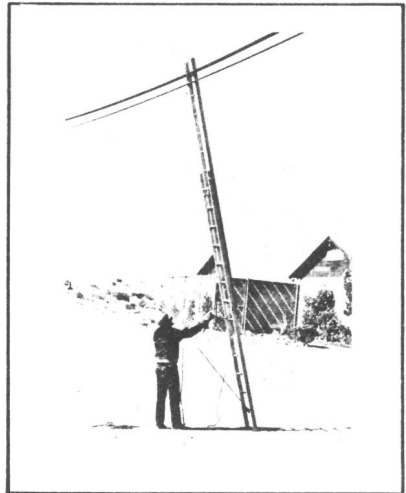

**FIGURE 27.**
**17.08** Continue pulling the free end of the handline until the ladder is in a vertical position under the strand as shown in Figure 27.
**17.09** As mentioned in paragraph 17.04, if the ladder base was not placed directly under the strand, the base should be moved directly under the strand. To do this, tie the free end of the handline to a ladder rung with a clove hitch and two half-hitches and move the base of the ladder in position under the strand. Untie the free end of the handline and pull on the handline until the ladder is vertical as shown in Figure 27.